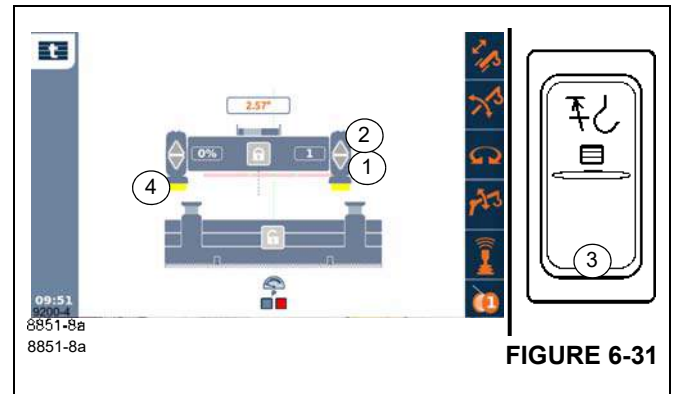

FIGURE 6-31
Assuming the symbol (4), (Figure 6-31) is yellow with the counterweight unrigged, then
- Press the override button (3).
- Fully extend the lifting cylinders – symbol (1).
- Release the override button (3).
- Fully retract the lifting cylinders – button (2).